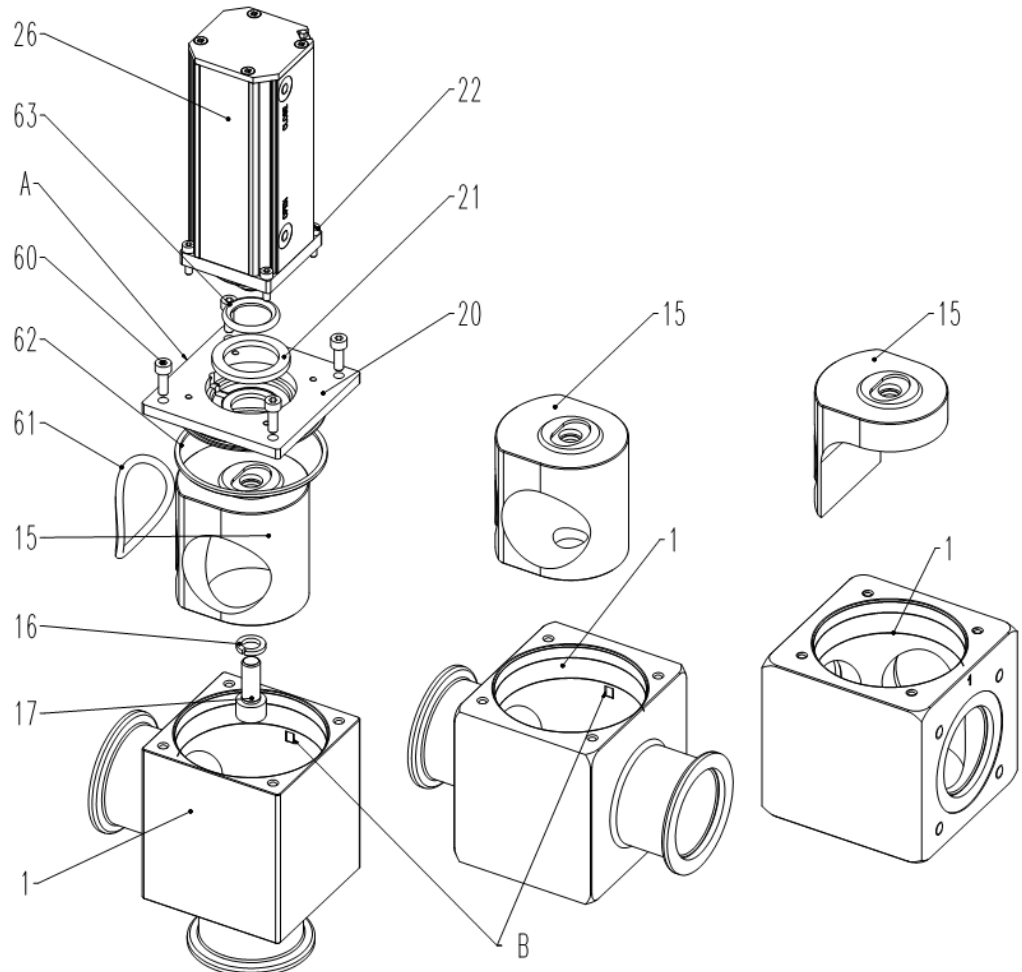

Figure 6-4
The leak detection port; see «Figure 6-4» on page 19 should be located on the opposite side from the compressed air inlets.
16. Insert the gate fixation screw (17) and washer(16). Tighten the gate fixation screw (17) with a tightening torque of 10 Nm.
17. Put new gate seal (61) on the groove and press it into the groove at 4 opposite spots. Press remaining sections uniformly into groove.
18. Put new bonnet seal (62) into bonnet flange (20).
19. Make sure that the gate (15) is located in an intermediate position (not locked in an end-position).
20. Carefully insert the valve insert into the body (1).
- See «Figure 6-4» on page 19 for correct location of venting groove inside valve body (1) with compressed air connection ports from the actuator.
21. Fasten screws (60) uniformly and in crosswise order.